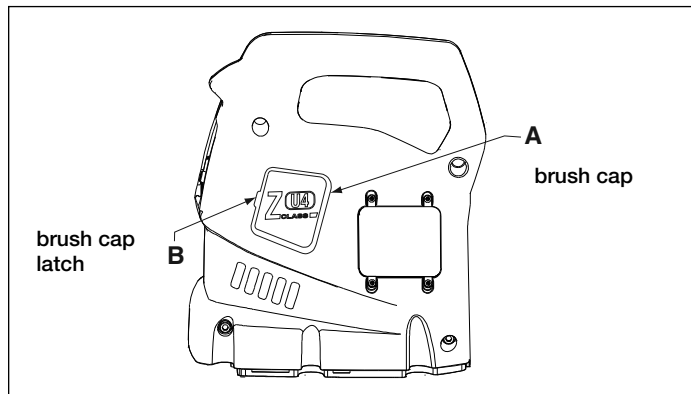

Figure 14, Brush Cap Removal
2. Remove both brush caps (A) by deflecting the brush cap latch (B) and gently prying outward (see Figure 14).